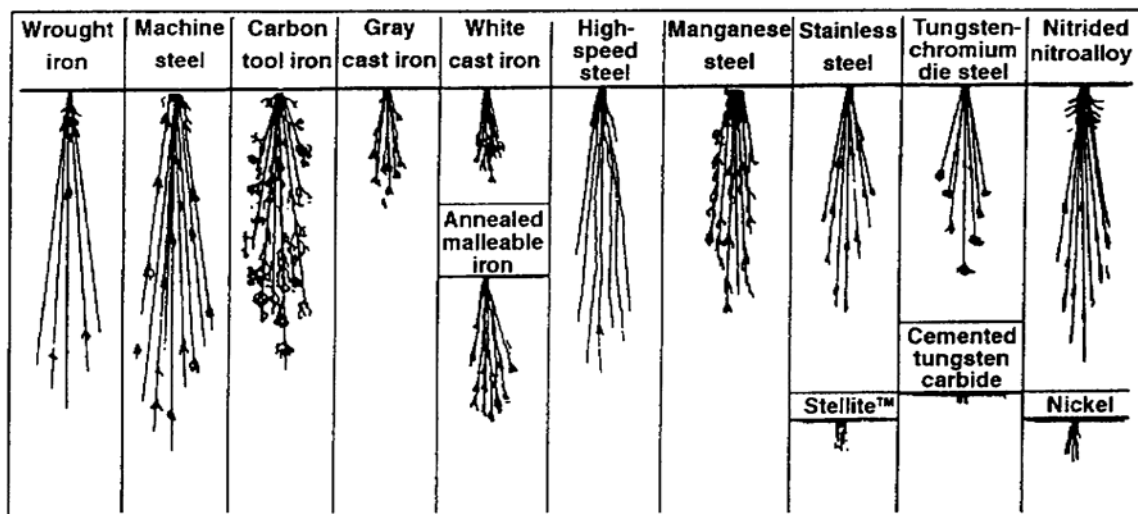

Figure 5-13. Typical spark streams
(2) Spark testing. This test identifies some metals by characteristic sparks that are thrown off when the specimen is held against a high-speed grinding wheel. The spark streams may vary from a few tiny sparks to a shower of sparks. Skill in spark testing takes practice. When possible, compare the sparks thrown off by the unknown specimen with spark streams from known samples. Standard samples of known specifications should be maintained for comparison purposes. When testing, hold the specimen with a firm, even pressure against the top of the grinding wheel. To free a wheel of metal particles retained during previous uses, clean the grinding wheel surface frequently.
(3) A high-speed bench grinder is recommended for spark testing. Use a 6- to 8-inch wheel, medium-grit composition, 1/2 to 3/4 horsepower, 110 or 220 volts, and 3,400 to 4,000 revolutions per minute. Always wear goggles when spark testing. Metals and alloys that produce a spark on the grinder include aluminum, brass, cadmium, copper, gold, lead, zinc, and antimony. Stainless steels and high-temperature alloys with iron- and nickel-based compositions will produce characteristic sparks (Figure 5-13). As a general rule, the more iron in a specimen, the lighter the spark. As the percent of iron decreases and the percent of nickel increases, the spark will darken.